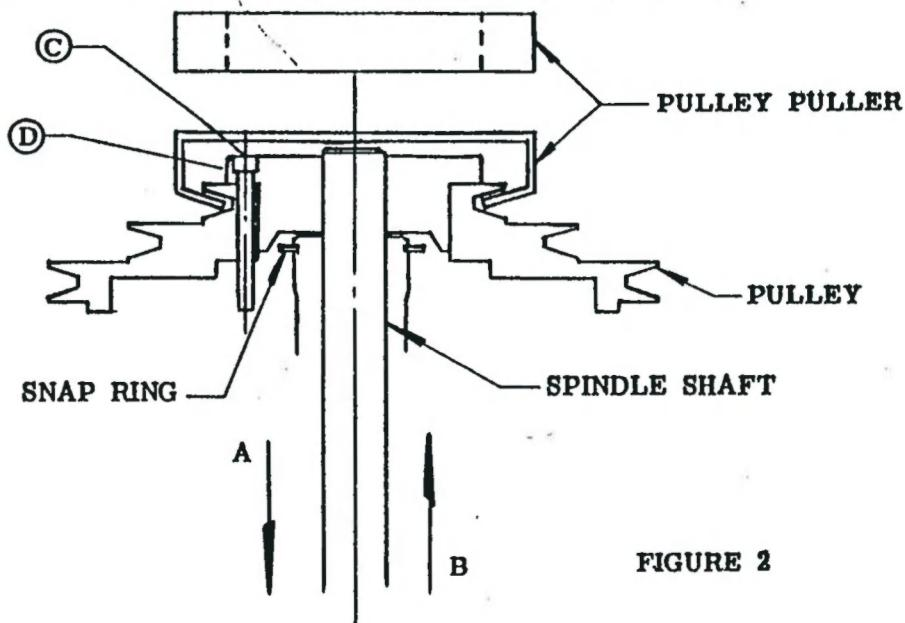

FIGURE 2
A. TO REMOVE SPINDLE PULLEY (See Figure 2) (Model 645).